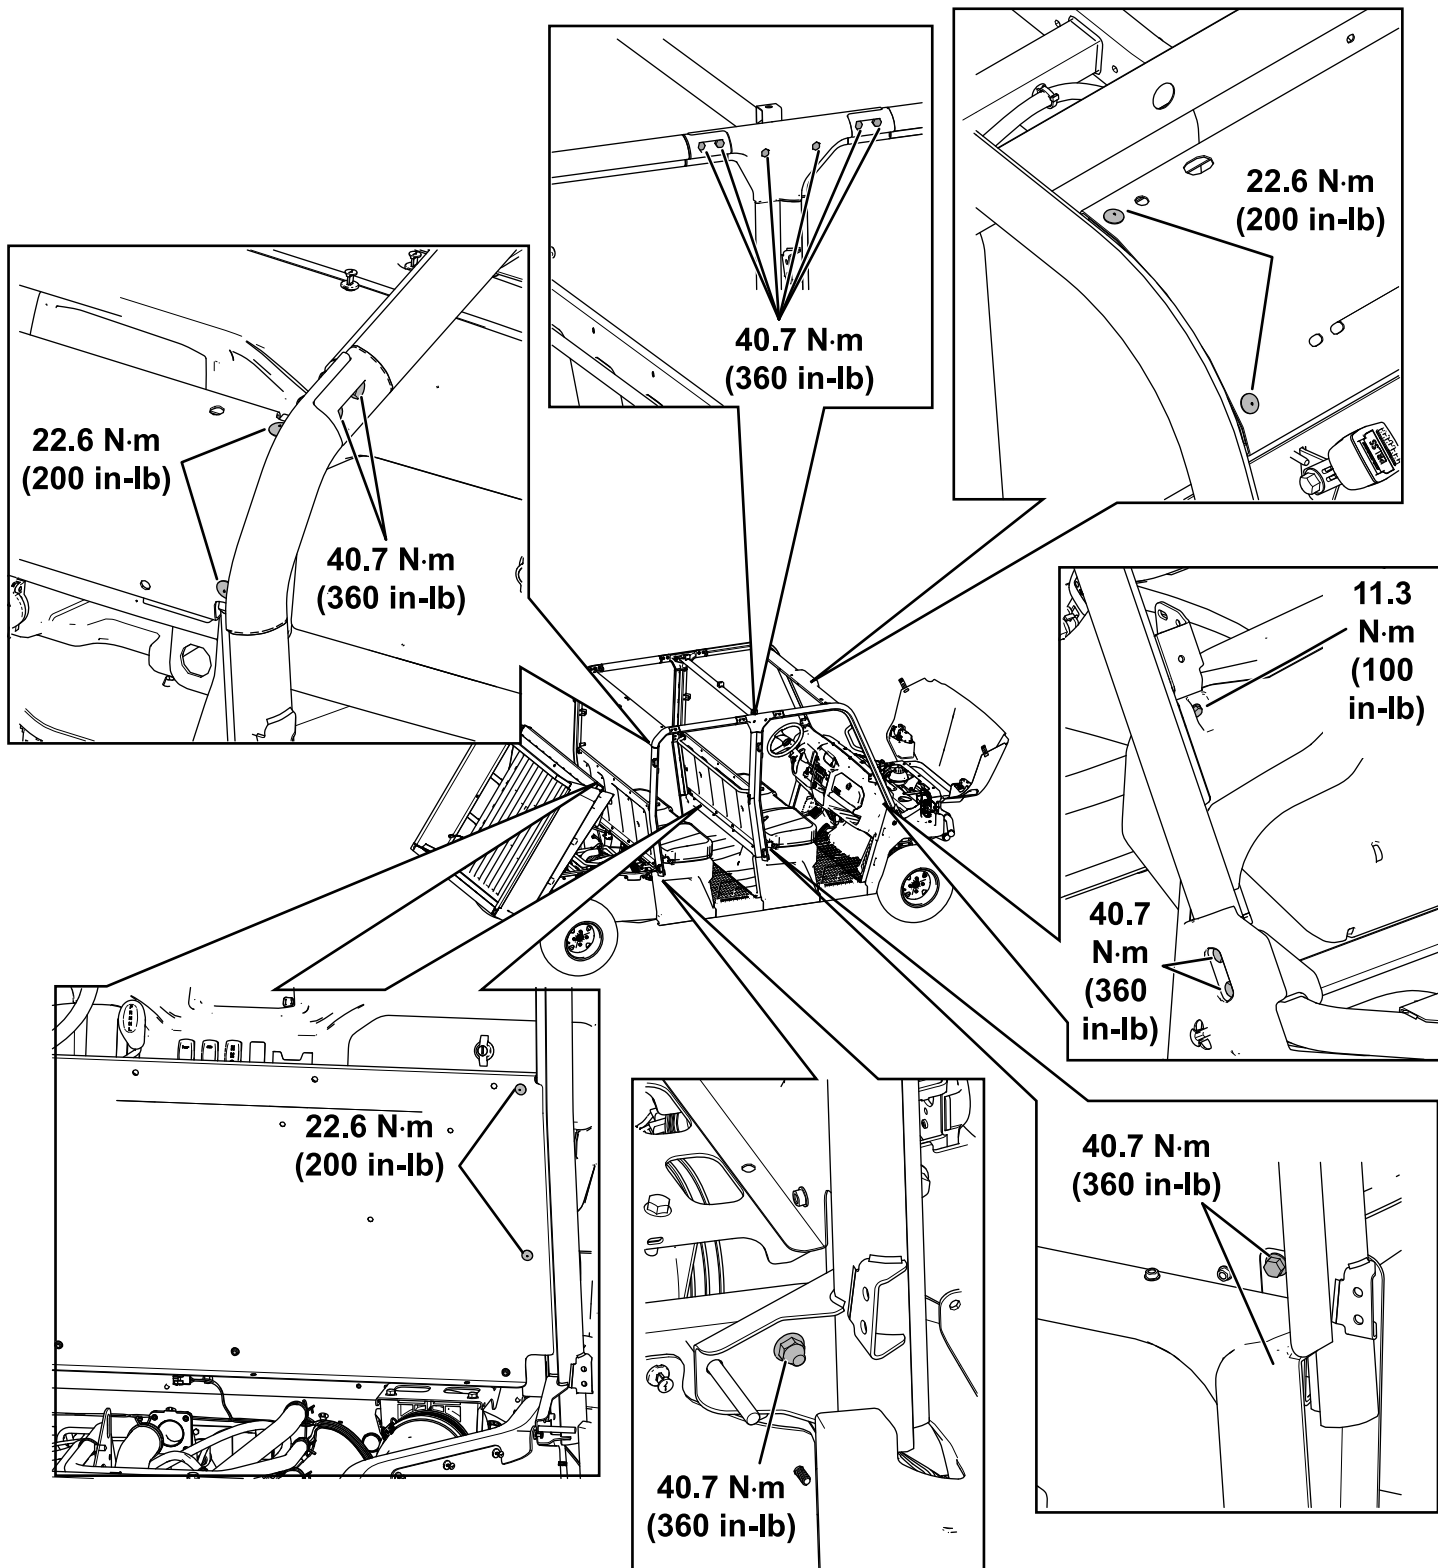

Figure 52
25. Torque the fasteners to the specifications shown in Figure 52.